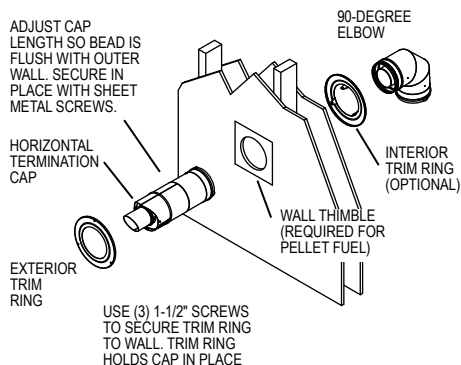

Figure 5
3. Cut wall penetration. Refer to the appliance manufacturer for clearance to combustible requirements from the vent. To accommodate the flared end of the vent pipe, the minimum hole size should be 5-3/8" x 5-3/8" for a square cut, or 5-3/8" diameter for a round cut (**Fig 5**). Always check with the appliance manufacturer for any additional clearance to combustibles (if any) from the venting that may be required. For reference, the Outside Trim Ring provided with the Horizontal Termination Cap measures a maximum of 8-1/2" diameter, and has a hole pattern of 7" diameter. For pellet fuel installs, a wall thimble is required.
7. Install Wall Termination. If the optional Interior Trim Ring will be installed, bend the three tabs and slip the ring onto the pipe section previous to the Horizontal Termination Cap. Adjust the length of the Horizontal Termination Cap so that the inside edge of the bead of the black-painted exterior portion is flush with the outer wall. This bead is used in combination with the Outer Trim Ring (supplied with the cap) to hold the cap in place at the wall. Once the Horizontal Termination Cap has been adjusted to the correct length, secure it in place with (3) 1/2" sheet metal screws (**Fig 5**). Then twist-lock on the Horizontal Termination
Install the black-painted Outer Trim Ring over the Horizontal Termination Cap and secure in place with the (3) 1-1/2" wood screws (**Fig 5**). Seal the Outer Trim Ring against the exterior wall using weatherizing silicone sealant.